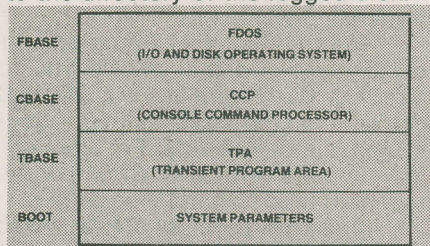

Figure 1. What CP/M looks like in RAM.
When CP/M is loaded into RAM, it looks like Figure 1. The areas of RAM are split up as follows:
Signetics' principle of voltage-controlled potentiometers is quite straightforward: the position of the 'wiper' of a potential divider within the IC is controlled electronically by a DC control voltage and the output from this wiper feeds an inverting op-amp. Figures 1 and 2 show how this principle can be used in two ways. In both configurations we can divide the potential divider into two parts: α , and $(1 - \alpha)$ where α is the ratio of resistance to one side of the wiper and $(1 - \alpha)$ is the ratio of resistance to the other side.
Figure 1. One of the two basic ways in which the gain block (the part of the circuit shown within the broken lines) of the TDA1074 can be used as a voltage-controlled potentiometer.
Inserting imaginary values of resistors ($R1 = R3 = 10k$, $R2 = 1M\Omega$) into Fig. 1 we can calculate the gain (G) of the circuit. By inspection, when $\alpha = 1$, i.e. when the wiper is at the far right of the potential divider,